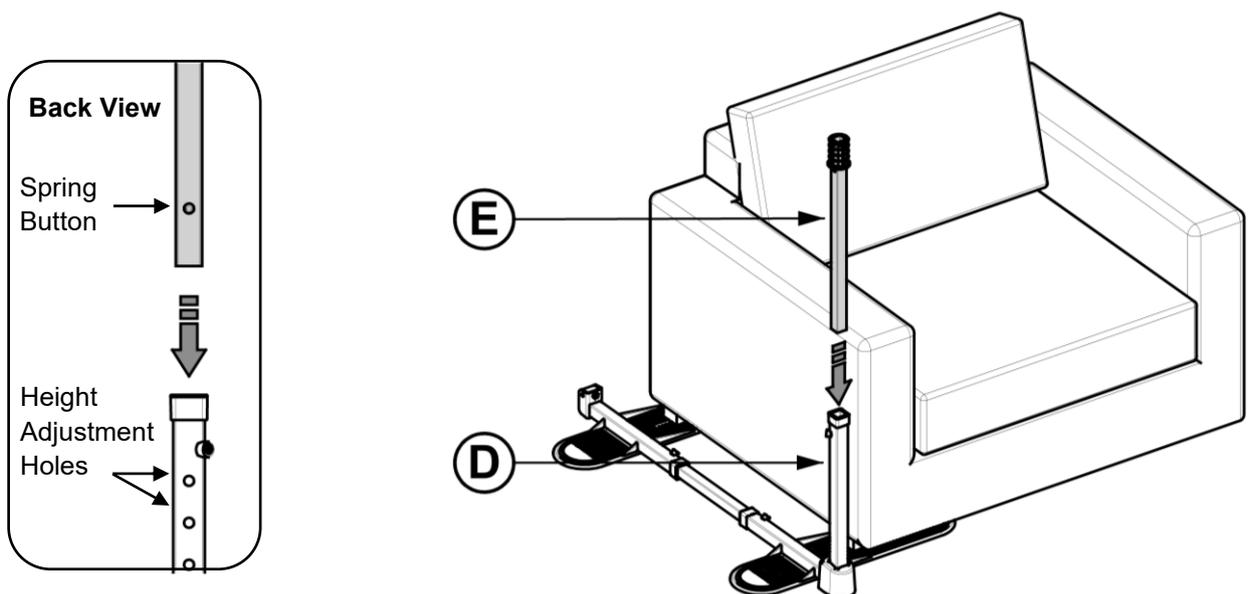

FIGURE 8
8. Slide Internal Upright **E** into External Upright **D** as shown in *FIGURE 8*, and adjust height to be close to desired tray height.